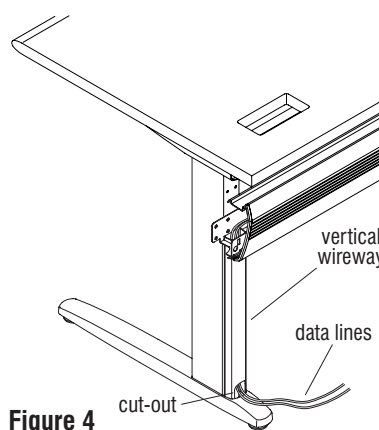

Figure 4
4. With the cover removed, route the appropriate data or infeed wires down the rear of the leg and onto the foot. The vertical wireway can then be reinstalled with the cut-out facing down (Figure 4).